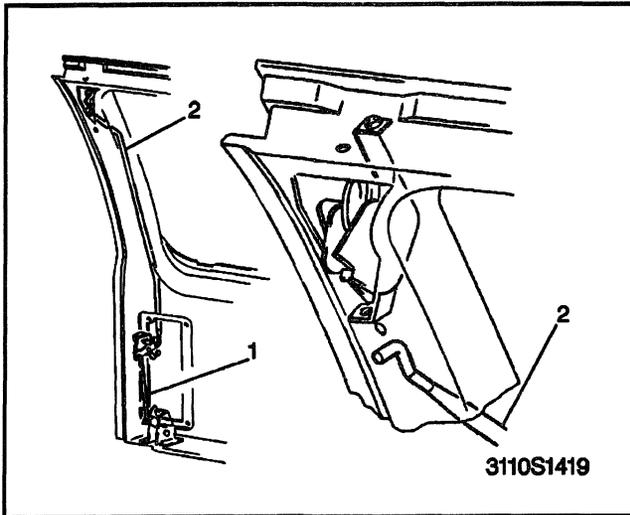

Figure 97—Upper Latch Control Rod
↔ Remove or Disconnect (Figures 97 and 98)
4. Control rod from latch (Figure 97).
→ Install or Connect (Figures 97 and 98)
3. Control rod to latch (Figure 97).